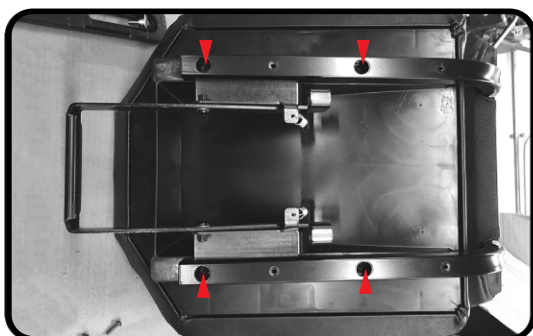

figure 7
STEP 8 Remove the four T30-head cap screws attaching the main seat frame to the plastic base assembly. Repeat this sequence to remove the plastic backrest assembly (figure 7).